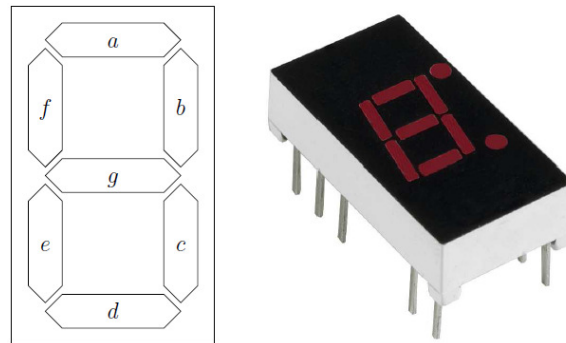

Figure 1. 7-Segment Display
Decoders and multiplexers are important combinational circuits in many logic designs. Decoders convert n inputs to a maximum of unique 2^n outputs. A special case is the BCD-to-seven-segment decoder, where a four-bit decimal digit (represented in BCD) is decoded into the corresponding seven segment code used as an input to the seven-segment display (Figure 1).
2. Fill in the truth table for the BCD-to-7-segment decoder shown in Table 1, e.g., if the input is 0011, LEDs a,b,c,d and g should be on while LEDs f and e will be off (see Figure 1). For inputs 0xA through 0xF, naturally they don't correspond to any number in the range 0-9, therefore output the corresponding hex value instead, i.e., for 0xA the display should show the letter A.